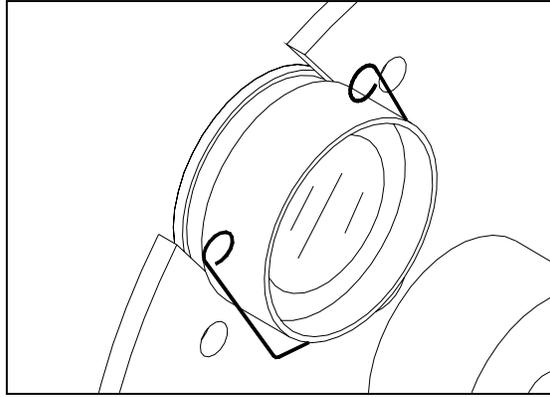
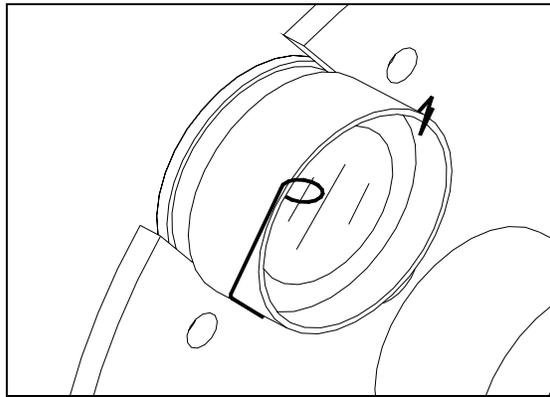

Figure 10 Correct Filter Spring Positioning (view of Filter Wheel from filter spring side)
Figure 11 Incorrect Filter Spring Positioning
- a) Make sure the Filter Springs are around the sides of the Filter as shown in Figure 10. The Springs must not extend past the rear face of the Filter as shown in Figure 11. Otherwise, the self-test will fail due to "Filter Motor Errors."